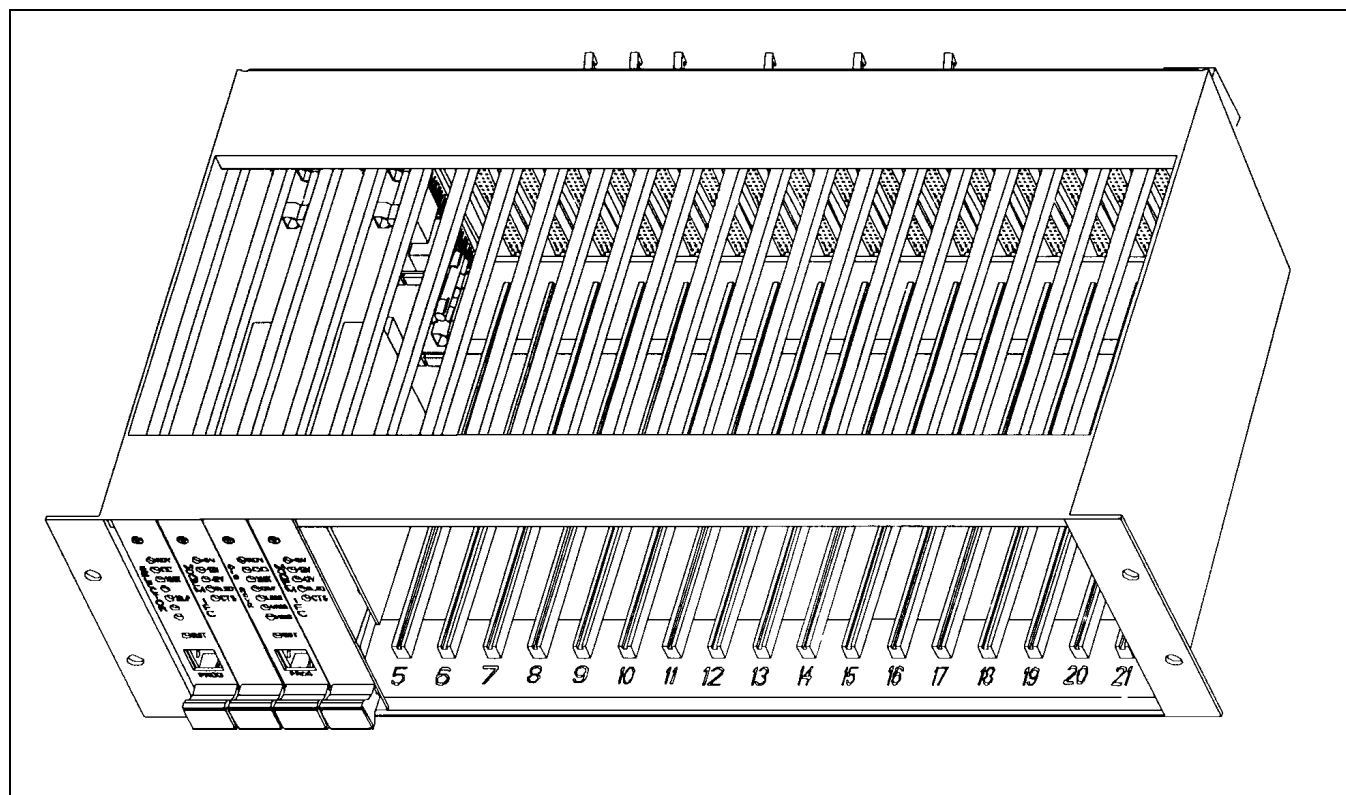

Figure 1 - Typical Digital Voter Shelf
Each shelf provides up to twenty-one (20) card slots. However, only 20 slots are used by the CV² for housing the Voter Selector, Digital Receivers and RMIC or RS232 Communication cards. A typical Digital Voter Shelf is shown in Figure 1.